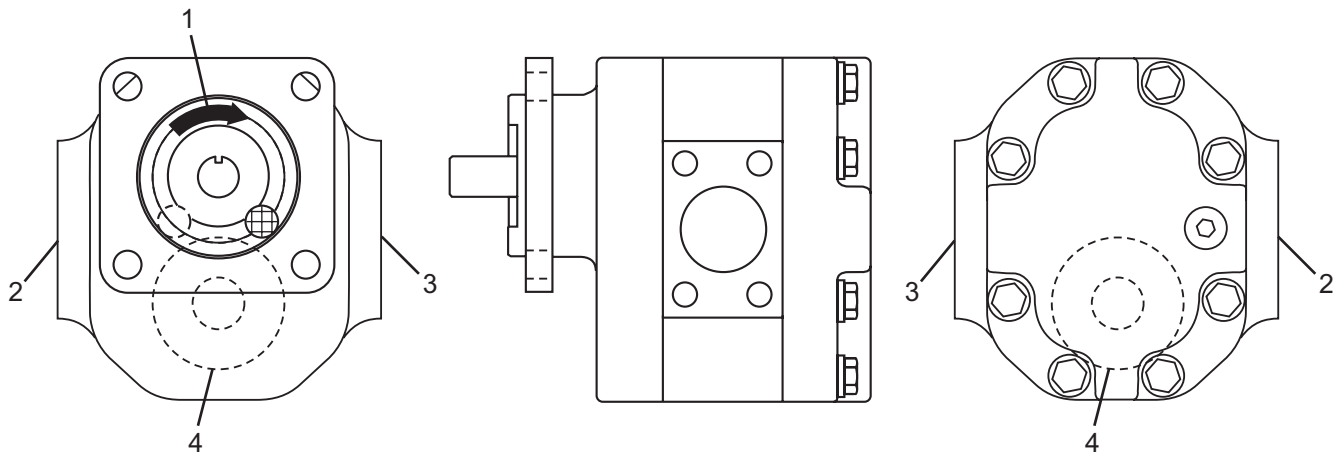
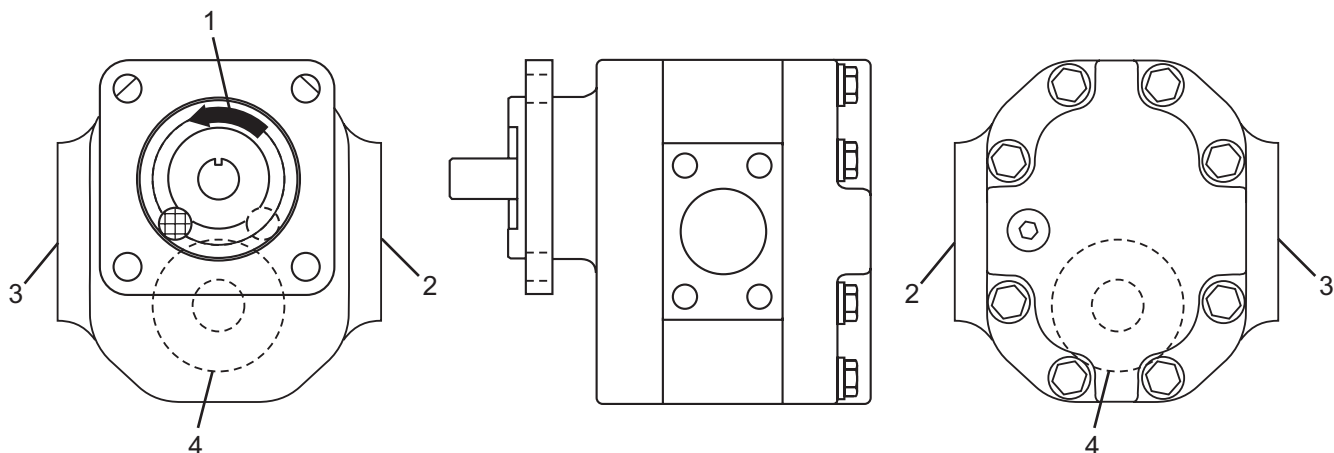

Figure 22
Figure 23
Pumps can be assembled for clockwise (CW) (Figure 22, Item 1) or counterclockwise (CCW) (Figure 23, Item 1) operation. The rotation direction is determined by looking at the pump with the drive shaft facing you and the idler gear down.
- the larger port, the inlet port (Figure 22, Item 2), is on the left side of the pump,
- the smaller port, the outlet port (Figure 22, Item 3), is on the right side of the pump
- the idler gear (Figure 22, Item 4) is down, the pump is set up for CW operation.
- the larger port, the inlet port (Figure 23, Item 2), is on the right side of the pump,
- the smaller port, the outlet port (Figure 23, Item 3), is on the left side of the pump,
- the idler gear (Figure 23, Item 4) is down, the pump is set up for CCW operation.